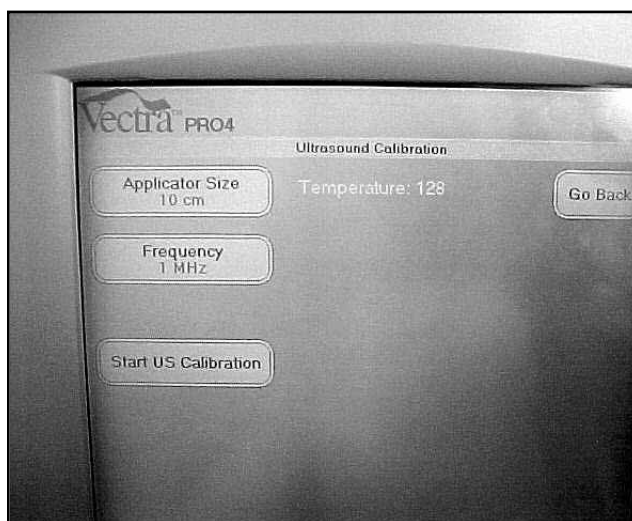

FIGURE 8.2
6. Press “Start US Calibration”. See Figure 8.2.